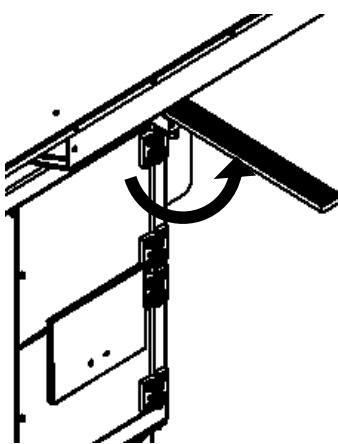

图 4.6 物料架旋转图
- 为方便生产和放置加工面料，可以按图 4.6 向外旋转物料架。
Figure 4.6 fabric shelf rotating diagram
To facilitate the production and placement of processed fabrics, the material shelf can be rotated outward according to figure 4.6.